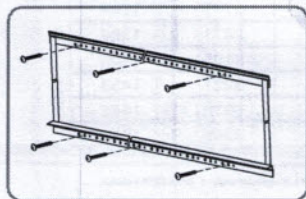

figure 11
a. Wood wall installation: fix the top and low bracket on the wall using the $\phi 5 \times 60$ mm wood screw (3 screws on each bracket) (figure 11).